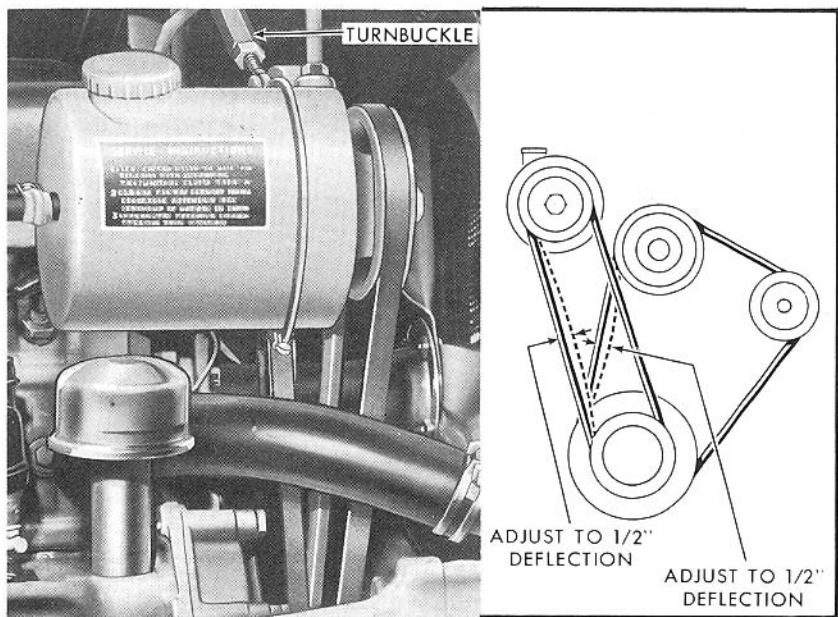

Figure 30
**Power Steering Pump Drive Belt:** The power steering pump is driven by a belt from the crankshaft pulley. Check this belt periodically for proper thickness. Adjust the belt tension by loosening or tightening the turnbuckle (see Figure 30) until a  $\frac{1}{2}$  inch belt deflection is obtained with normal thumb pressure at belt center as shown in Figure 30.
**Water Pump and Fan Belt:** The water pump is driven by the fan belt. Check the belt periodically for proper tightness. Adjust the tension by loosening the two generator pivot bolts and the belt tension adjusting bolt. Move the generator in or away from the engine until a  $\frac{1}{2}$  inch belt deflection is obtained with normal thumb pressure as shown in Figure 30, and tighten the bolts.